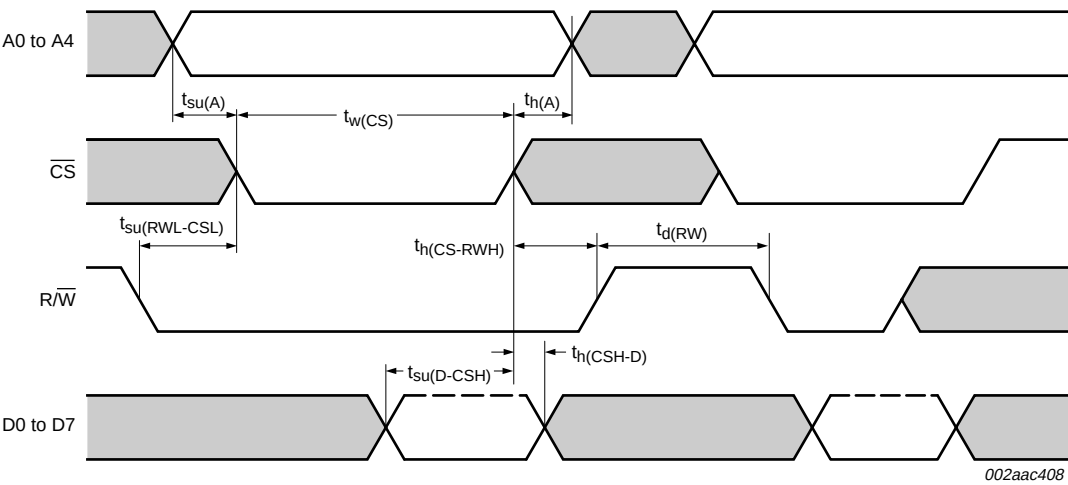

Fig 10. General write timing in 68 mode
(1) $\overline{\text{CS}}$ timing during a write cycle. See Figure 10.(2) $\overline{\text{CS}}$ timing during a read cycle. See Figure 12.